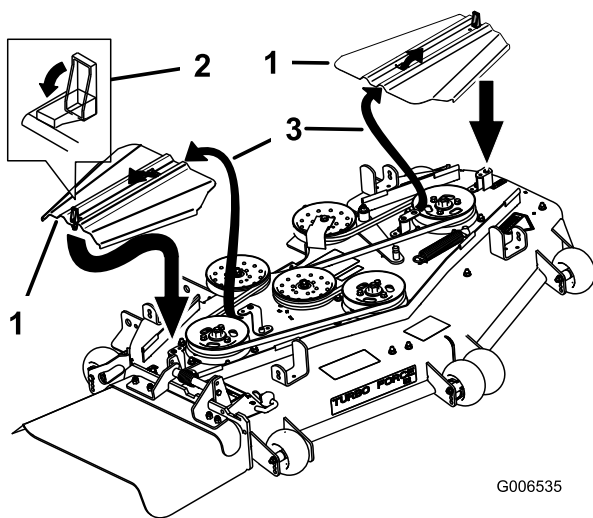

Figure 64
- Install the belt covers by sliding the cover into the tab, install the bolts, and close the latches (Figure 64).